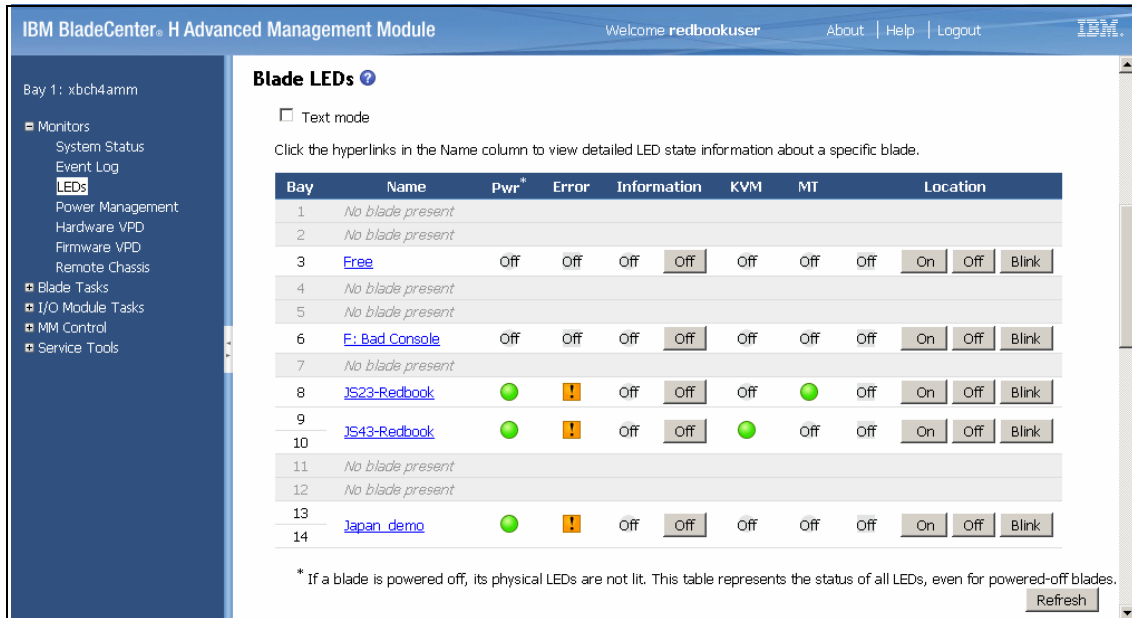

Figure 12-11 AMM BladeCenter LEDs control and status page
2. Click **Monitors** → **LEDs**. Figure 12-11 on page 475 shows the LEDs monitoring page in AMM.